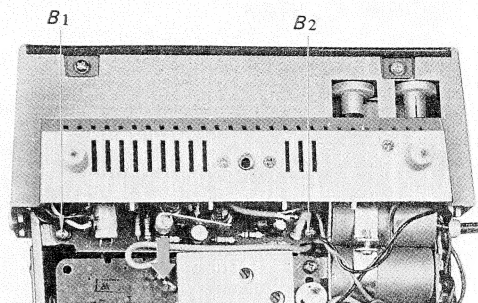

Fig. 2-2
1. Remove the two screws labeled B1 and B2 in Fig. 2-2.
2. Pull out the S-board in the direction shown by the arrow in Fig. 2-2.